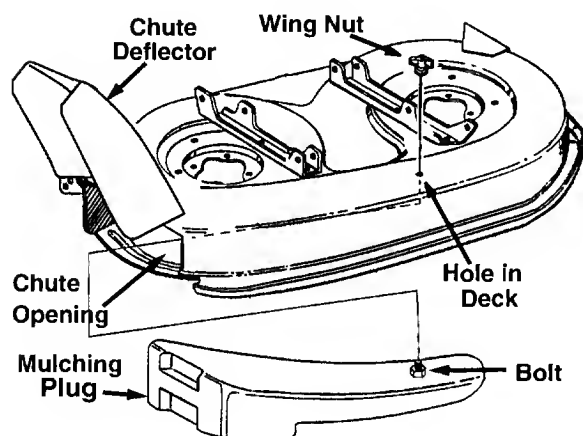

Figure 8
3. Lift up the chute deflector and insert the mulching plug through chute opening. See Figure 8.